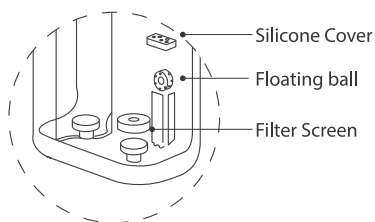

Figure 8
(1) Pull out the silicone cover of the floating ball and then take out the floating ball. **(Figure 8)**
(2) Pull out the the filter screen in the same direction, as shown in the figure. **(Figure 8)**